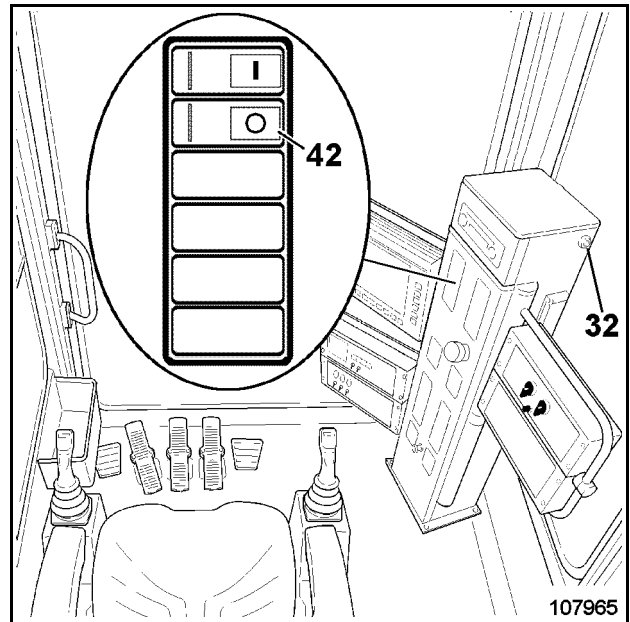

Fig. 3-11:
- ➔ Switch off electric motor, to do so actuate switch (42, Fig. 3-11:).